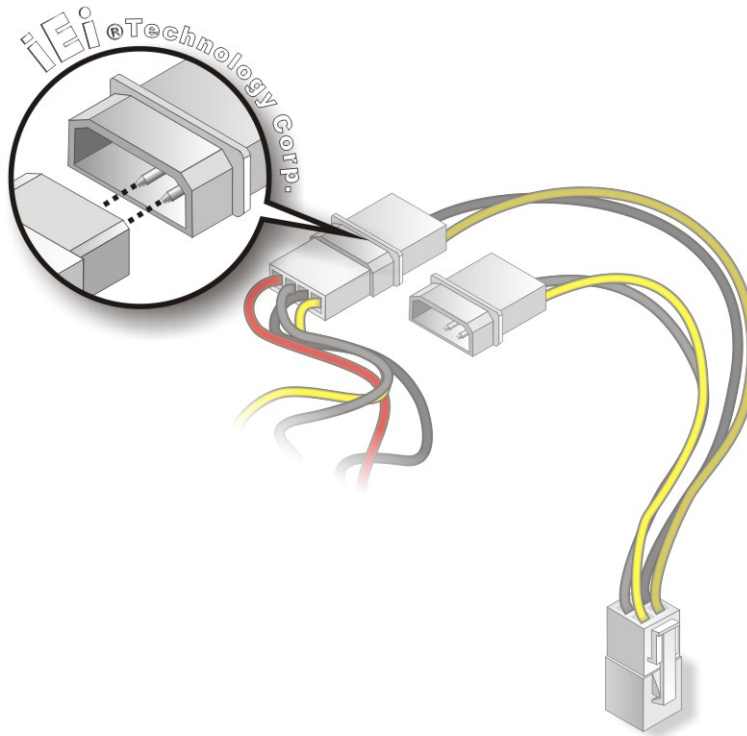

Figure 4-10: Connect Power Cable to Power Supply
Step 6: **Connect Power Cable to Power Supply.** Connect one of the 4-pin (1x4) Molex type power cable connectors to an AT/ATX power supply. See Figure 4-10.